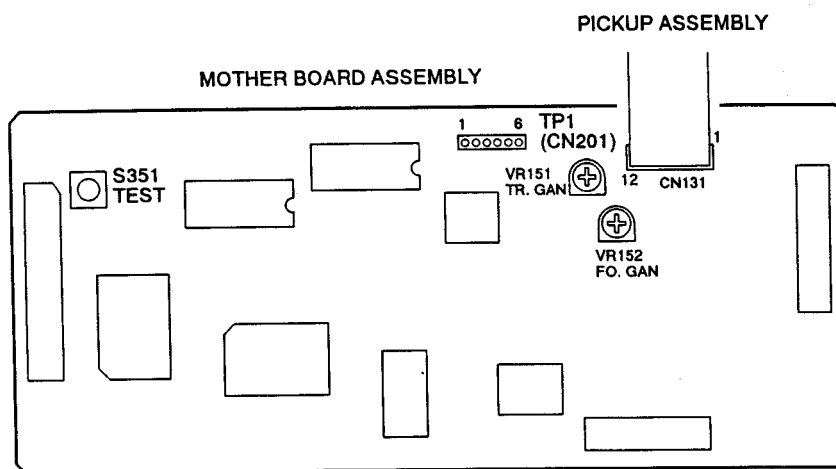

Figure 1. Adjustment Locations
2. Press the TEST mode switch (S351). (See Figure 1.)